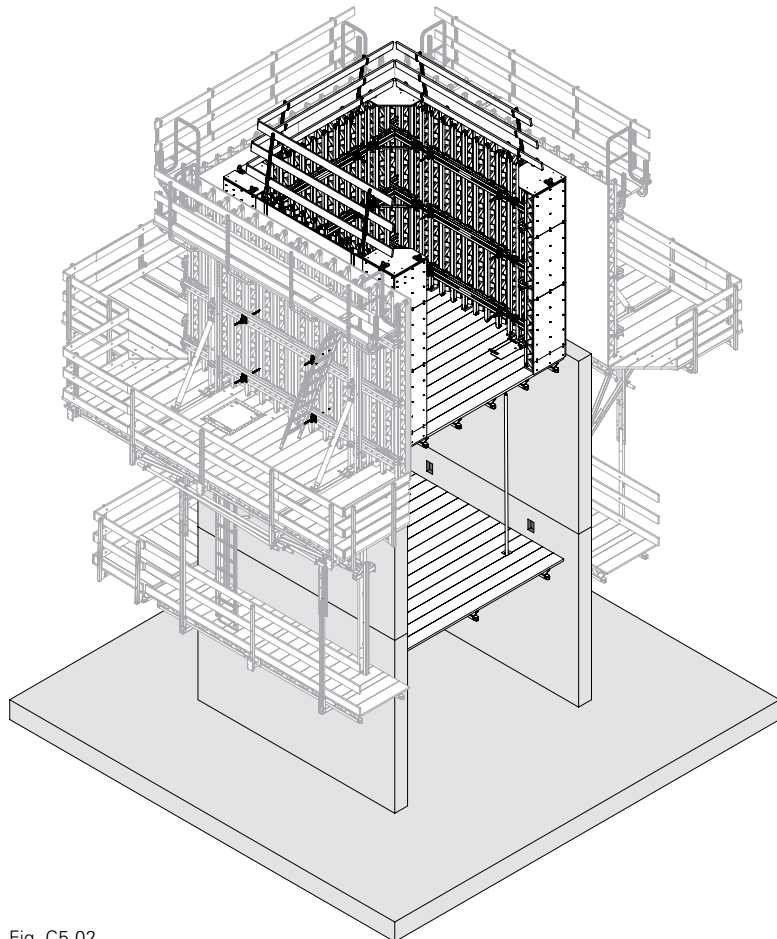

Fig. C5.02
5. Position the internal formwork on the Shaft Platform. Place the formwork anchor and close the internal formwork. (Fig. C5.02)